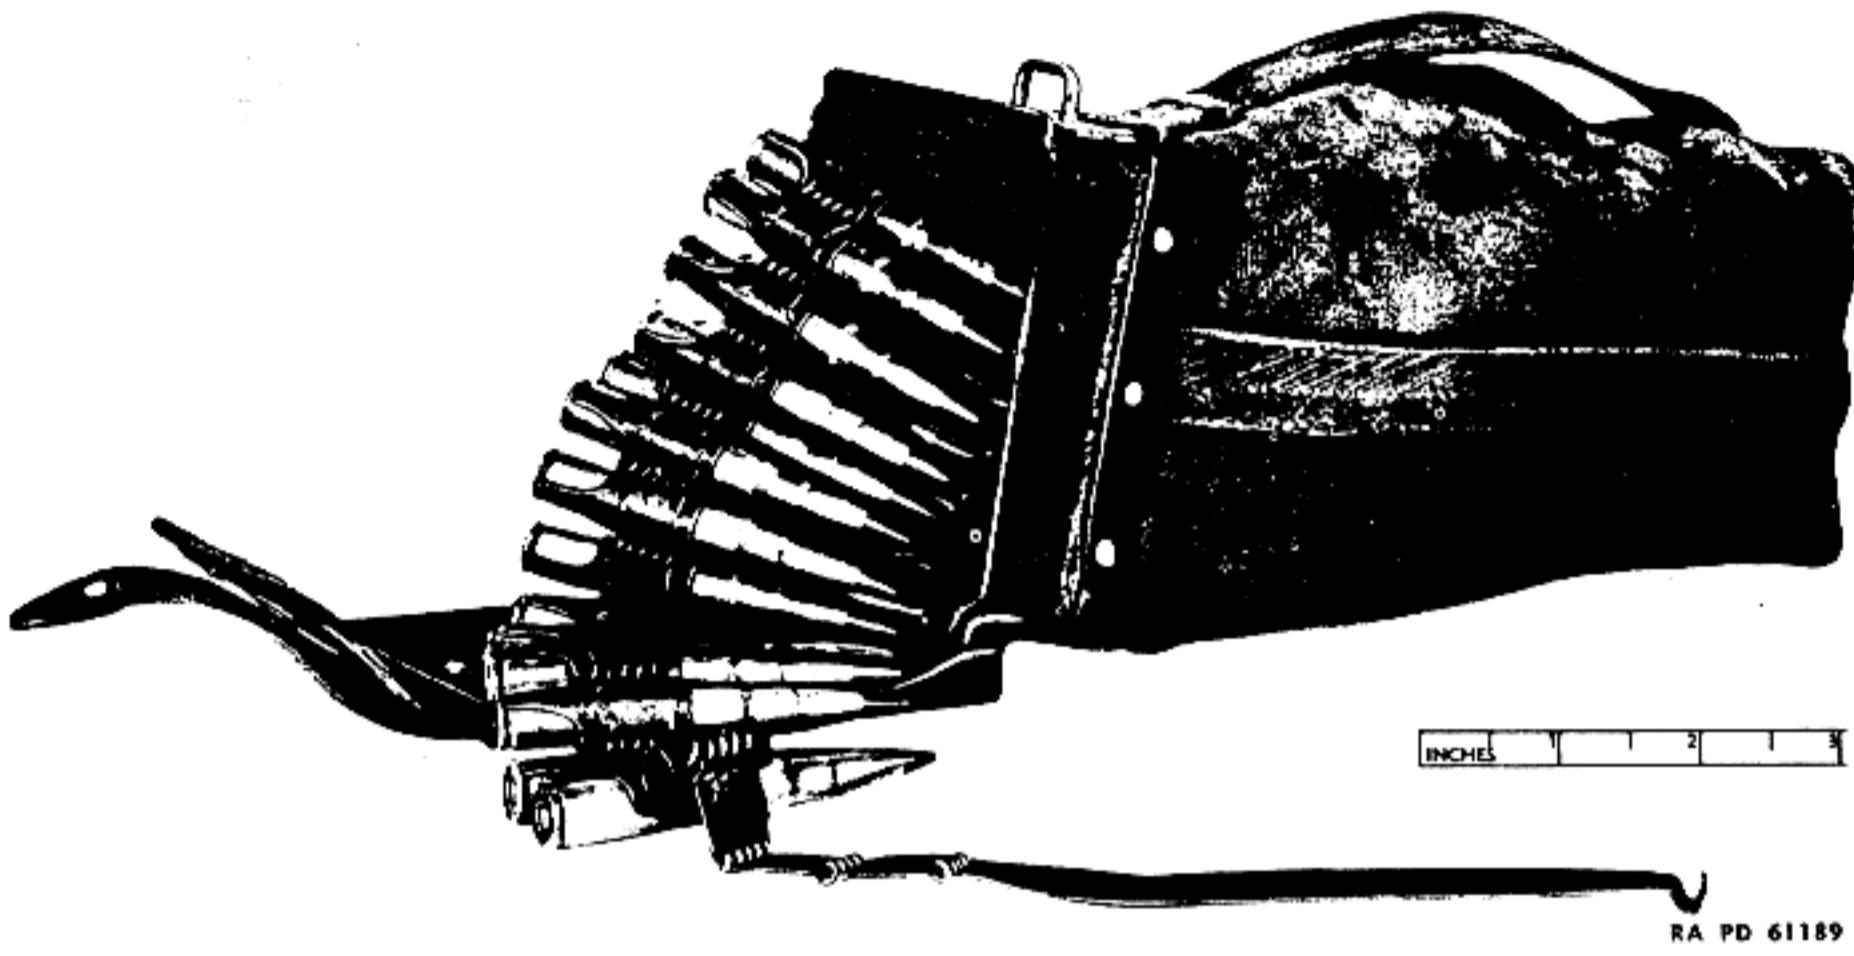

Figure 57 — Ammunition Carrier Showing Ammunition and Belt
a. The standard small-arms ammunition for use in German rifles, carbines, and machine guns is known as Patrone s.S. (Patr. s.S.). This is usually referred to as 7.9-mm caliber ammunition but is more accurately 7.92-mm caliber. The 7.9-mm German ammunition is similar in appearance to, but is not interchangeable with, U.S. cal. .30 ammunition, as shown in figure 56. As encountered in the field, 7.9-mm ammunition may be packed in cartons, in magazine clips, and in machine gun belts in ammunition carriers and boxes (figs. 57, 58, and 59). Cartridges primarily for use in machine guns are packed in cartons and loaded into machine gun belts (equipment with the weapon) in the field.